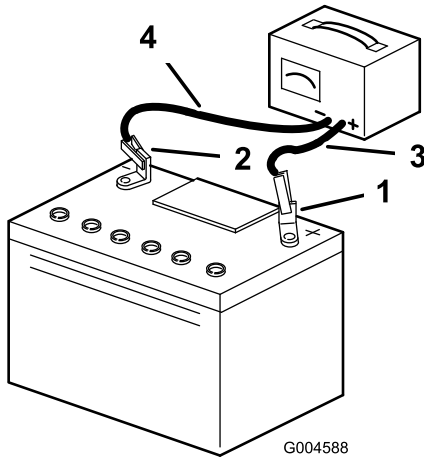

Figure 30
5. Disconnect the charger leads from the battery posts (Figure 30).